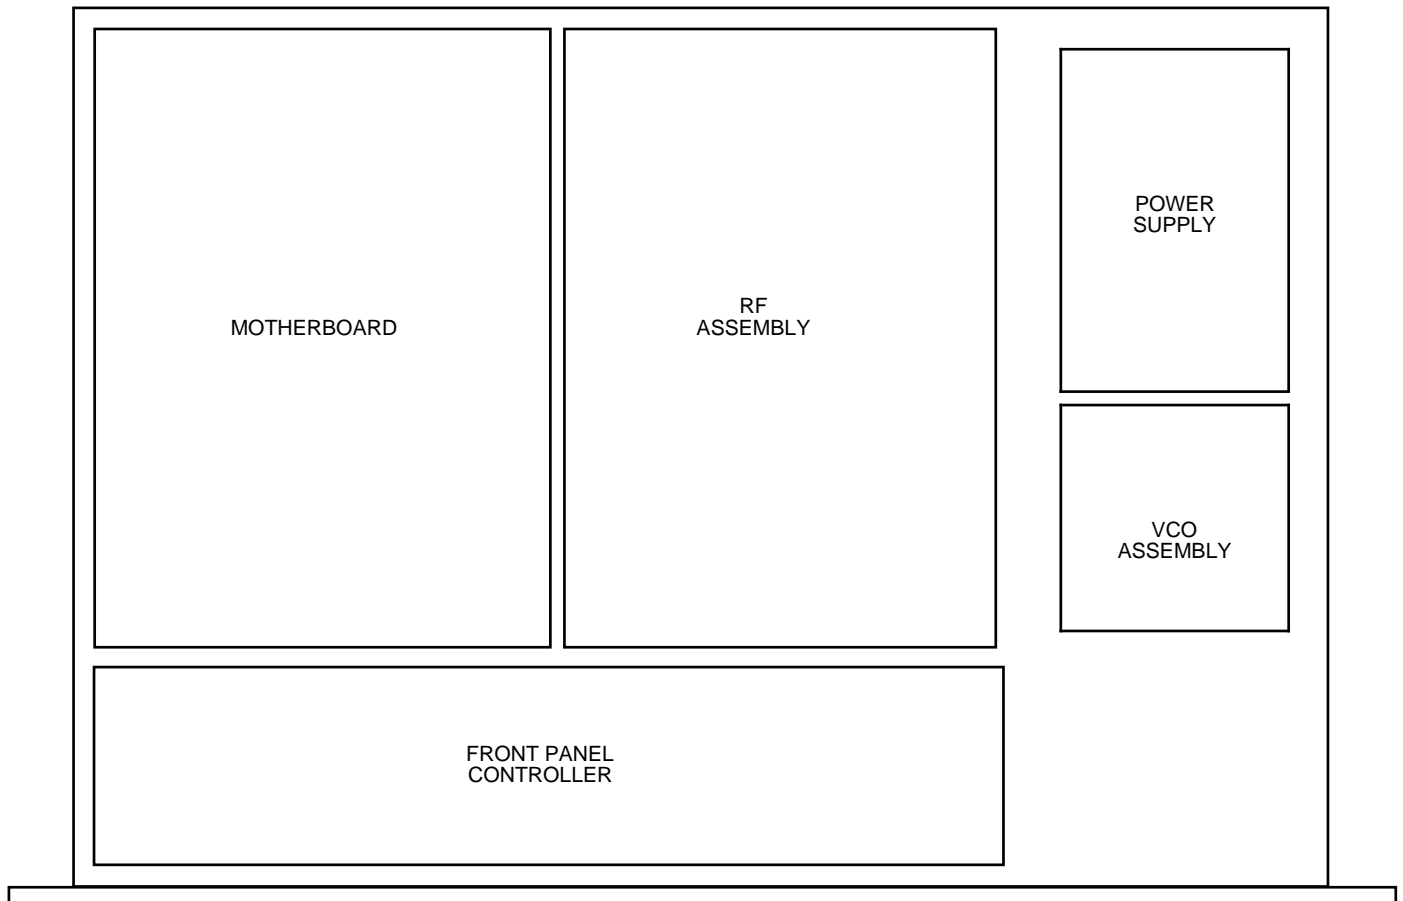

FIGURE 2.0 3116-T21-145109 Mechanical Assembly
2.1 Mechanical - The 3116-T21-145109 Multi-Band Block Translator consists of a controller board and RF plate assembly. A switching ± 12 , +24, +5 VDC power supply provides power for the assemblies. The 3116-T21-145109 can be secured to a rack using the 4 holes on the front panel. Figure 2.0 shows how the 3116-T21-145109 is assembled.